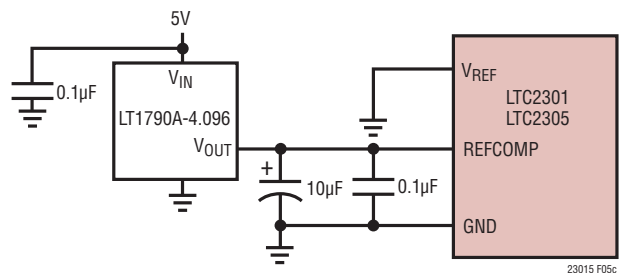

Figure 5c. Overdriving REFCOMP Using the LT1790A-4.096
**REFCOMP (Pin 8):** Reference Buffer Output. Bypass to GND with a 10μF low ESR ceramic or tantalum and 0.1μF ceramic capacitor in parallel. Nominal output voltage is 4.096V. The internal reference buffer driving this pin is disabled by grounding VREF, allowing REFCOMP to be overdriven by an external source (see Figure 5c).
a 0.1 $\mu$ F ceramic capacitor for best noise performance. The internal reference buffer can also be overdriven from 1V to  $V_{DD}$  with an external reference at REFCOMP as shown in Figure 5c. To do so,  $V_{REF}$  must be grounded to disable the reference buffer. This will result in an input range of 0V to  $V_{REFCOMP}$  in unipolar mode and  $\pm 0.5 \cdot V_{REFCOMP}$  in bipolar mode.